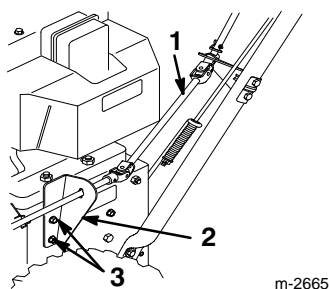

Figure 13
1. Remove the two screws from the chute control rod bracket on left side of the frame (Fig. 13).
4. Install the bracket with the two screws (Fig. 13).